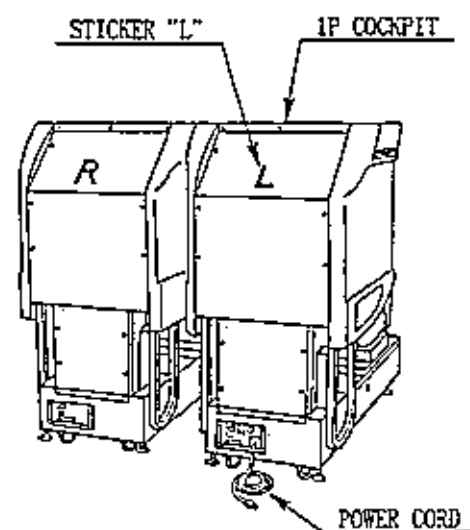

FIG. 6.1a
- ① Place the two cockpits side by side. Position the 1P cabinet which has the power cord at the left-hand side as viewed facing the monitor. STICKER "L" is attached on the back of 1P cabinet, and STICKER "R" on the back of 2P cabinet (Fig. 6.1a).